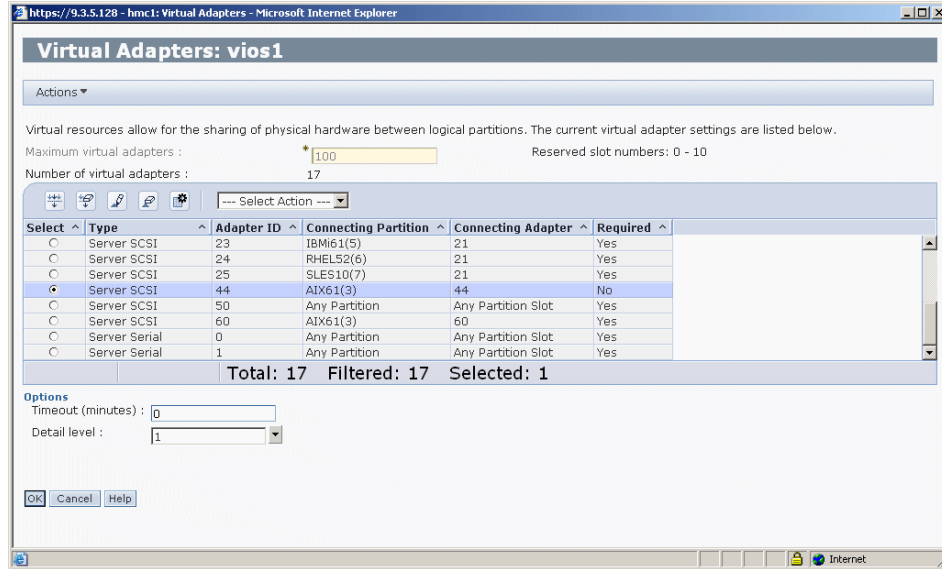

Figure 6-26 Virtual adapters for an LPAR
- The newly created adapter is listed in the adapters list as shown in Figure 6-26.